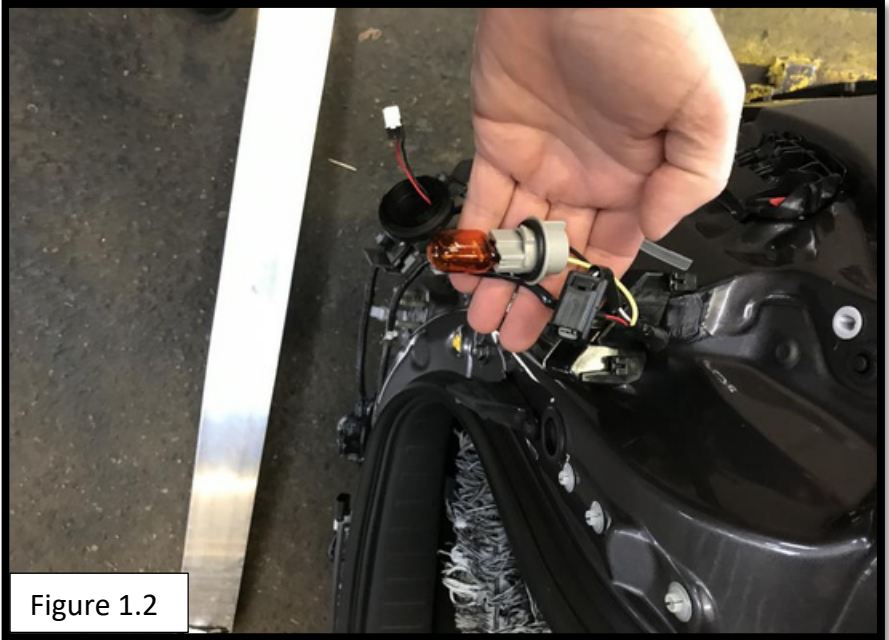

Figure 1.2
- Remove the three electrical plugs from each taillight assembly starting with the smallest one first. Using a small flat bladed screwdriver may be needed See figure 1.2.